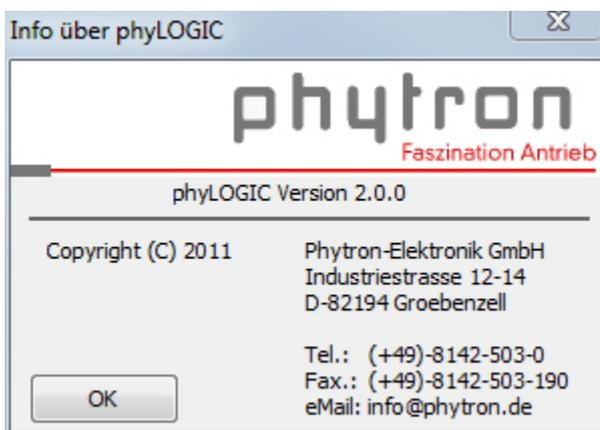

Fig. 8: Information about *phyLOGIC*TMToolBox
**Options / About** gives important information about the program version of *phyLOGIC*TMToolBox , copyright and phytron's firm data (fig 8)